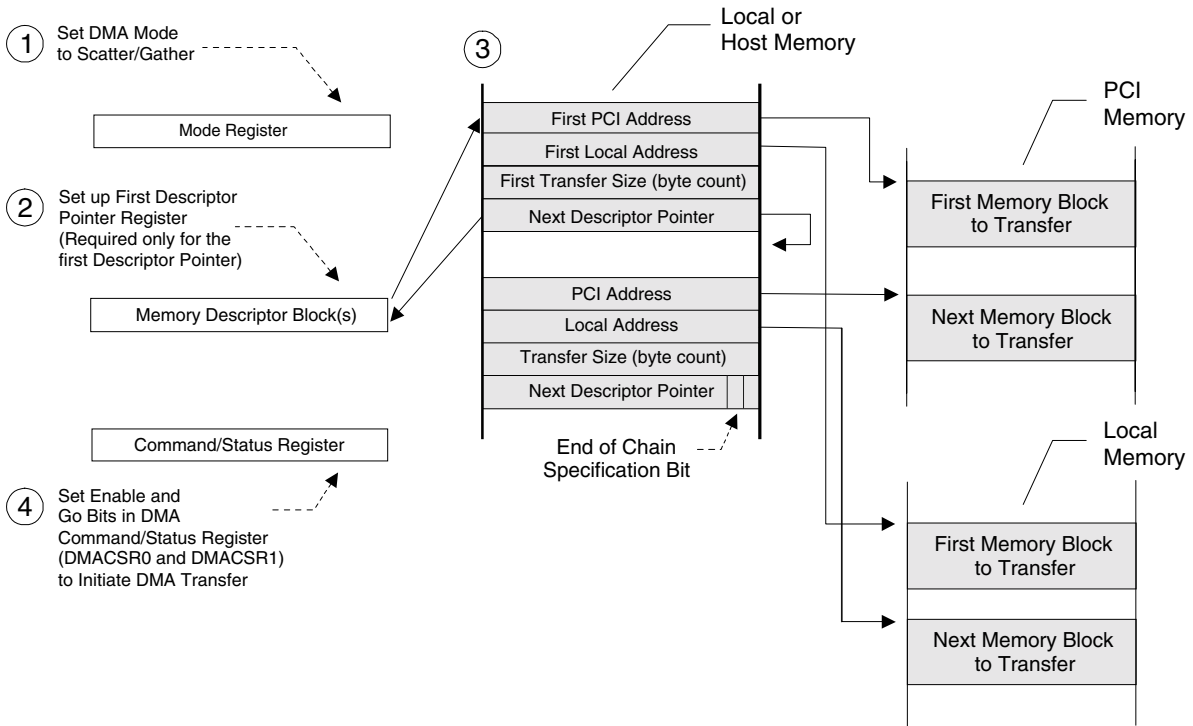

Figure 3-17. Scatter/Gather DMA Mode Descriptor Initialization [PCI SAC/DAC PCI Address (DMADAC0 and/or DMADAC1) Register Dependent]
- DMADAC0 and/or DMADAC1 contain(s) a non-zero value. DMAMODE0[18] and/or DMAMODE1[18] is set to 0. The PCI 9656 performs a Single Address Cycle (SAC) four-Lword descriptor block load from PCI memory and DMA transfer with DAC on the PCI Bus. (Refer to Figure 3-17.)